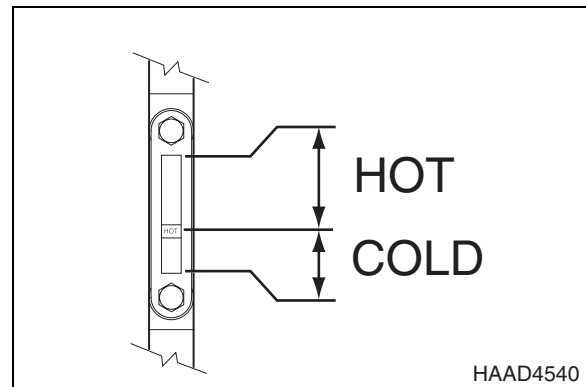

Figure 76 TRANSMISSION SIGHT GAUGE
14. Add fluid until fluid level is visible in lower "COLD" portion of sight gauge (Figure 76).
17. Idle engine until transmission fluid temperature reaches 82 – 93°C (180 – 200°F). Oil level must be at "HOT" mark or above as shown in (Figure 76).